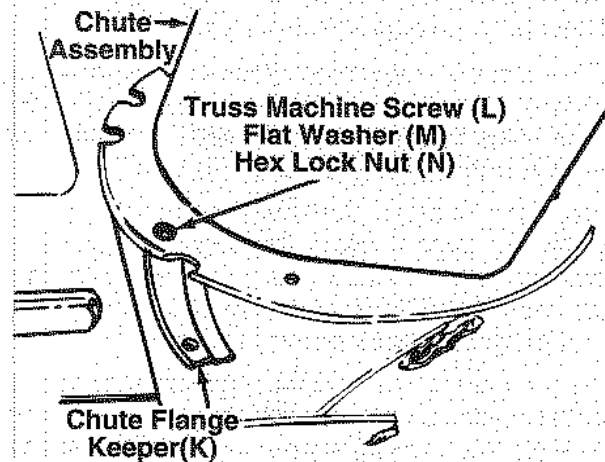

FIGURE 4.
8. Place the chute assembly over the chute opening, with the opening in the chute assembly facing the front of the unit. Place chute flange keepers (K) beneath the lip of the chute assembly. Secure with truss machine screws (L), flat washers (M) and hex lock nuts (N) as shown in figure 4. Tighten with a 7/16" wrench.